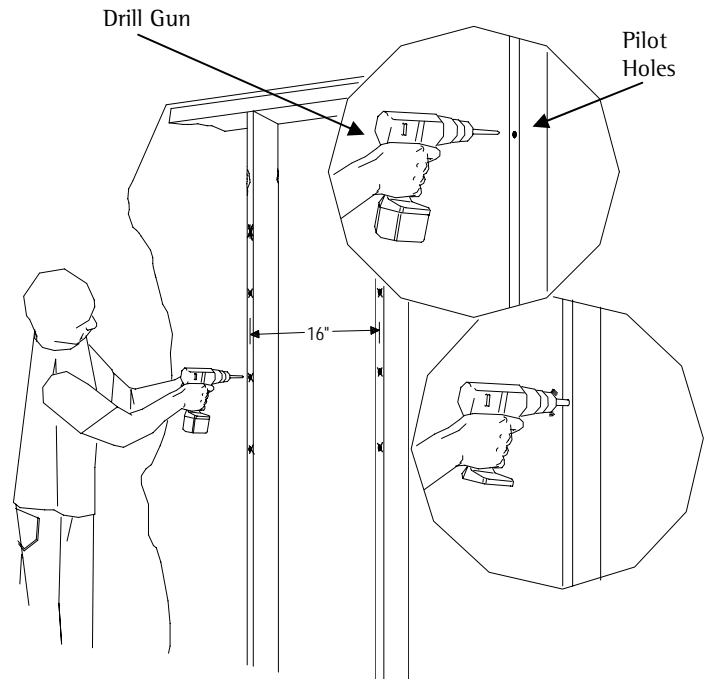

Figure 12
Wood studs: Drill eight (8) 1/4" pilot holes to the marked wall (16" studs, on center – Figure 12).